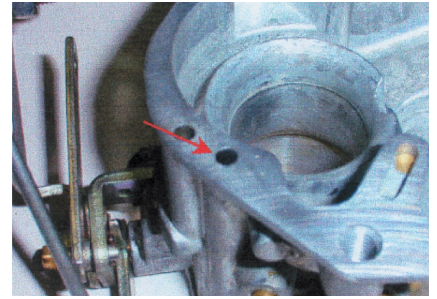
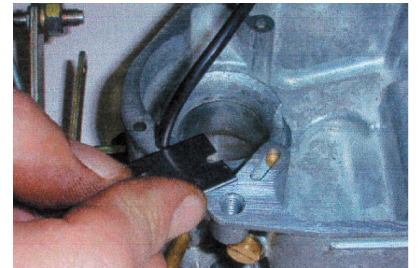

Figure 3
Figure 4
4) Inspect the carburetor base for a redundant vacuum port (Figure 3). This port is plugged off on the carburetor top but left open on the base. When the carburetor warps, the port is exposed and fuel is siphoned from the float chamber into the throttle opening. If this port is open on your carburetor, plug it prior to assembly using a piece of O-ring slightly larger than the hole (Figure 4).